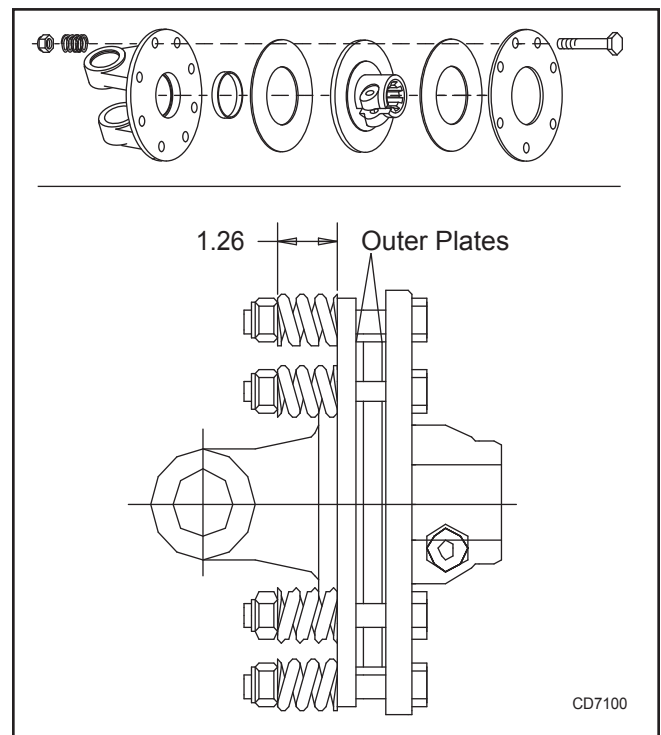

Figure 13. Slip Clutch Assembly
3. Mark outer plates of slip-disc clutch as shown in Figure 13.